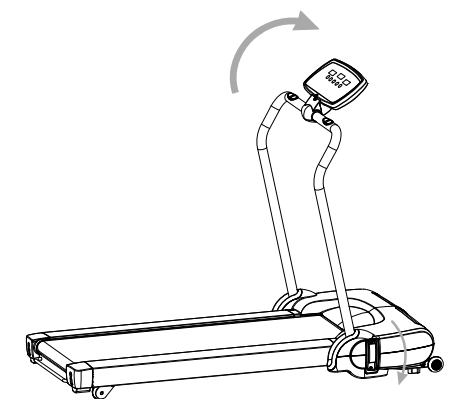

FIG 3.
3. Rotate the console to a desired position as shown in FIG 3. and press the fold locker to lock the upright . Your treadmill is now ready for use.